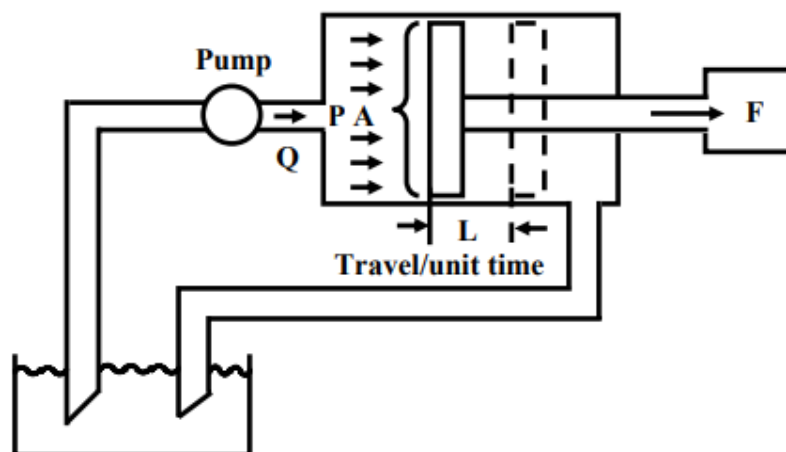

Fig. 26.1 Major hydraulic and mechanical variables
- B. Can you imagine what would happen, if the cylinder piston in Fig. 26.1 is stopped forcefully?